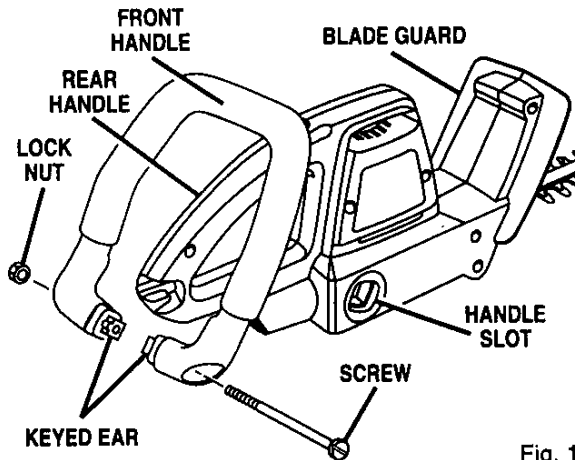

Fig. 1
See Figures 1 and 2.
- Orient front handle so that the side with the molded slot for lock nut will be located on the left side of your hedge trimmer. See Figure 1.